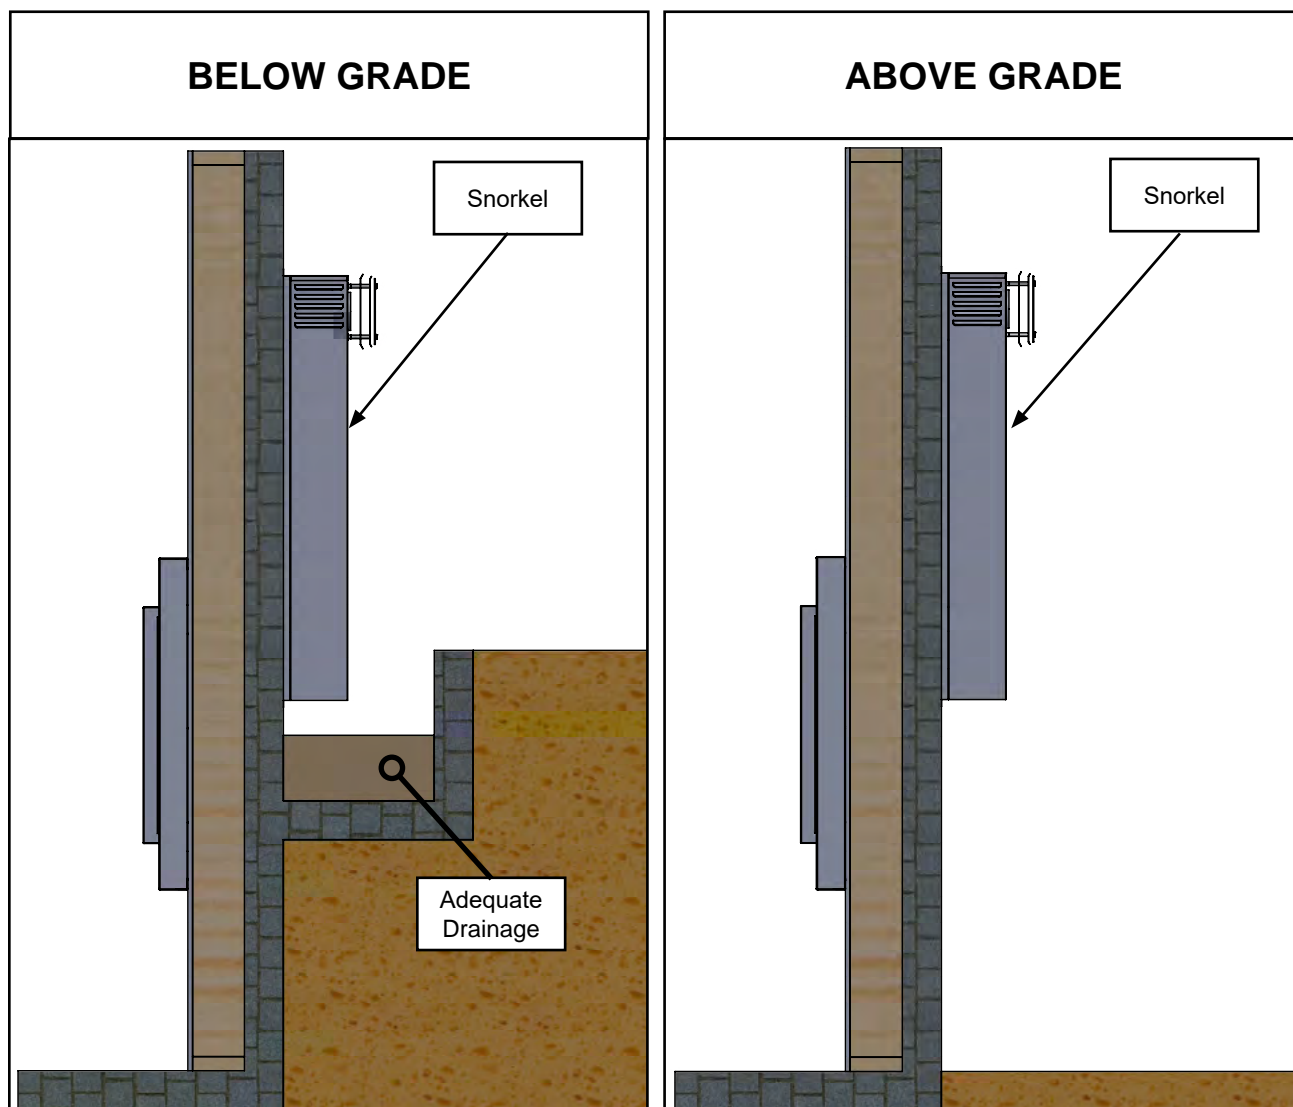

Figure 10.5.01
- A snorkel counts as two 90° elbows out of the total number of allowable elbows in the vent run. For example, the installation in **Figure 10.5.01** shows the use of 2 90° elbows
- If the snorkel termination is installed below grade, (IE: basement) proper drainage must be provided to prevent water from entering the snorkel termination (see **Figure 10.5.01**)